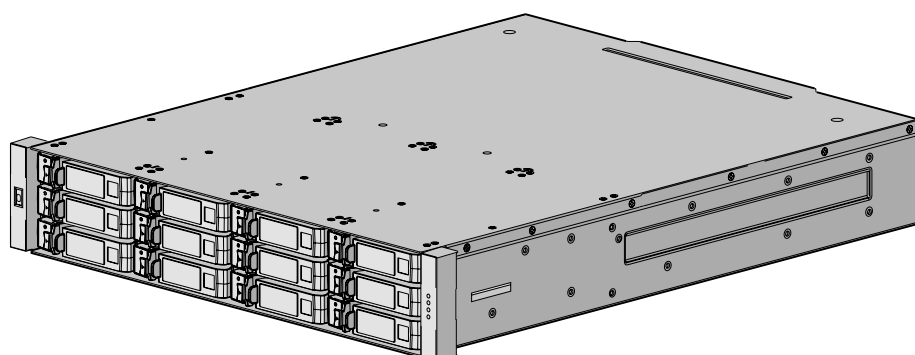

Figure 36 Controller enclosure assembly (2U12)
- Assembly: Figure 36 on page 212